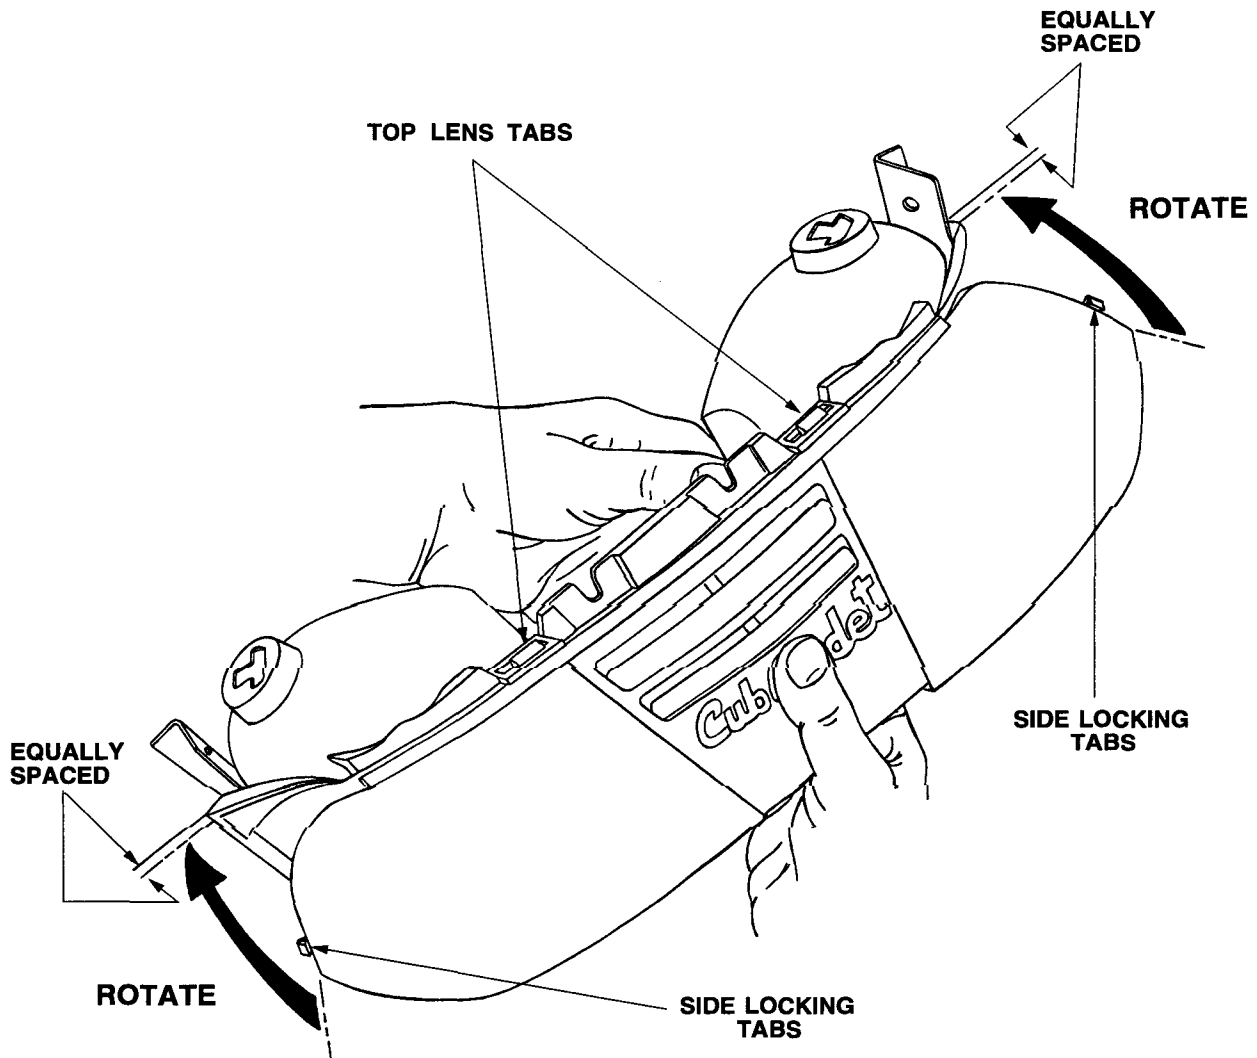

Figure 5-3. Headlight Reflector and Lens Assembly.
1. Separate the hood (28) from the grille (6) by removing the hex flange lock nuts (14) and spring washers (24) which fasten the short and long hood links (7 and 8) to the upper hood bracket (3).
2. Disassemble the hood (28) as follows:
- a. Remove the truss tap screws (12) fastening the upper hood bracket (3) to the hood (28).
- b. Using a small screwdriver, carefully pry the side locking tabs of the headlight lens (19) to release them from the front flange of the hood (See Fig. 5-3).
- c. Remove the truss tap screws (12) and flat washers (25) securing the headlight reflector (20) to the hood.
- d. Remove the upper hood bracket (3) and headlight reflector (20) from the hood as an assembly by carefully spreading the hood sides enough to allow removal. Remove the U-type speed nuts (17) from the hood.
- e. Remove the truss tap screw (12) from each side of the headlight reflector (20) to separate the reflector from the upper hood bracket (3).
- f. Remove the headlight lens (19) from the reflector (20) by depressing either the upper or lower locking tabs of the lens to release them from the reflector slots (See Fig. 5-3).
- b. Position the heat baffle seal (16) and press onto the rear hood baffle. The seal should completely cover the bottom edge of baffle.
- c. Position the hood guide (11) in the hood, with the flat surface of the guide toward the front. Position the hood latch spring (22) on the mounting flange of the guide and secure both with the hex wash. hd. tapp screws (13).
- d. Assemble the headlight lens (19) and reflector (20) as follows:
- 1. Holding the lens (19) at approximately a right angle to the reflector (20), insert the top lens tabs into the slotted ears of the reflector (see Fig. 5-3).
- 3. Slide the lens in the direction necessary to center the lens on the reflector. The lens must be properly centered to enable the side locking tabs of the lens to engage the hood flange when assembled (see Fig. 5-3).
- e. Install the headlight reflector/lens on the upper hood bracket (3), with bottom of reflector toward bracket mounting flange. Secure with truss tap screws (12).
- f. Slide the U-type speed nuts (17) onto the flange of the hood.
- g. Spread the hood sides to install the upper hood bracket/reflector assembly INSIDE the hood flanges. Make certain the upper ears of the reflector are also inside the front hood flange, and that the U-type nuts (17) have not been dislodged.
- h. Secure the reflector to the hood using the flat washers (25) and truss tap screws (12).
- i. Secure the upper hood bracket (3) to the hood with the truss tap screws (12).